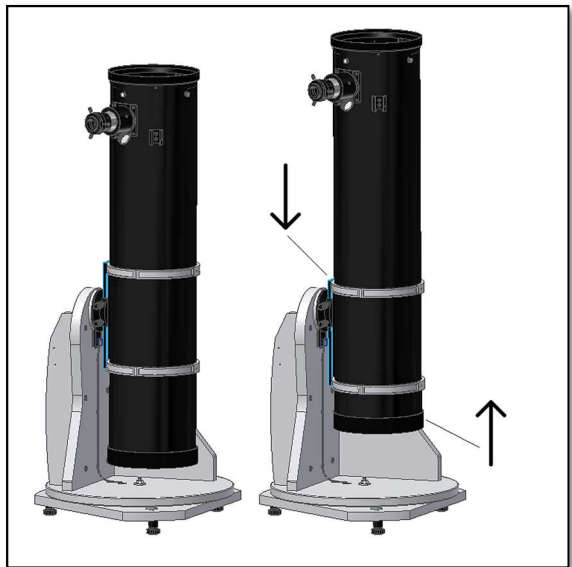

Figure 19. Move the dovetail down and the tube up!
3.1. Balancing the tube. Slide the tube or the dovetail to the front or the back to achieve perfect balancing. For 8” f/5 tubes, we recommend moving the tube all the way to the front and leaving the dovetail to the back as shown in figure 19. This allows the focuser position to be moved up making it more comfortable to observe.